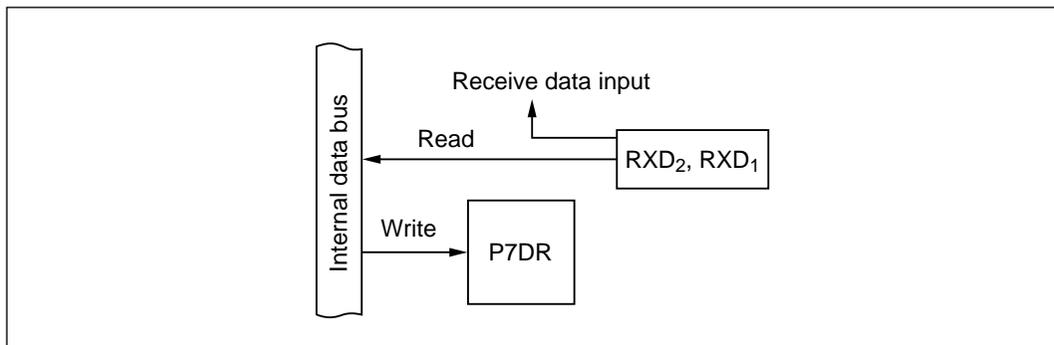

Figure 10-50 RXD₂ and RXD₁ Input (Modes 1 to 7)
(6) RXD₂ and RXD₁ Input (P7₅ and P7₃; Modes 1 to 7): Figure 10-50 shows a block diagram illustrating the RXD₂ and RXD₁ input function. Table 10-41 indicates register read/write data. When P7₅ and P7₃ are used for RXD₂ and RXD₁ input, the value written in P7DR is ignored, but P7DR can be read to monitor the levels at the RXD₂ and RXD₁ pins (to detect the line break state, for example).